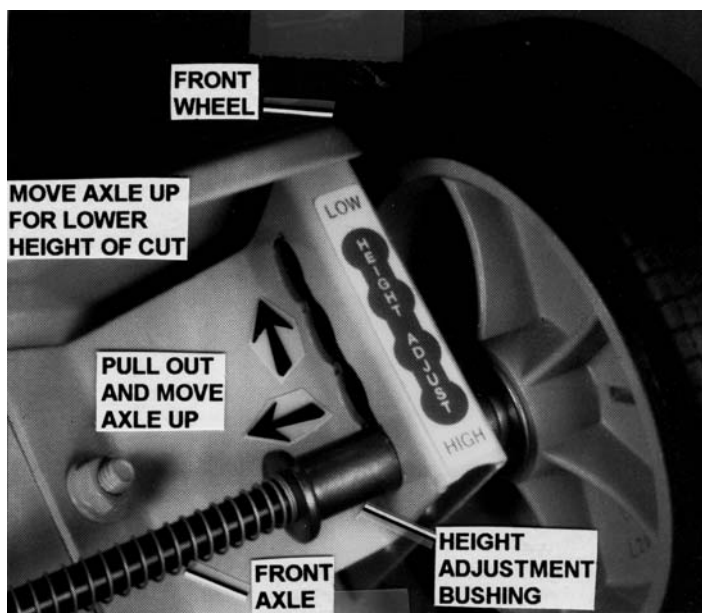

FIGURE 12
1. Reposition the front axle by raising the front wheels off the ground, then pull in on one of the spring loaded bushings until it clears the bracket. Move to the desired height of cut position and release the bushing. Repeat the same procedure on opposite end of axle. See Figure 12.